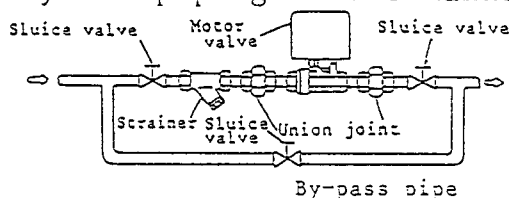

Fig.5
- (1). Install the valve either in vertical or in horizontal position, with the motor unit at the top. Note that the drip-proof property of the valve is effective only for vertical installation.
- (2). Carry out piping in the manner shown in the Fig 5.